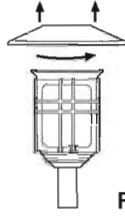

Figure 8
1. Remove cap from globe (Figure 8).